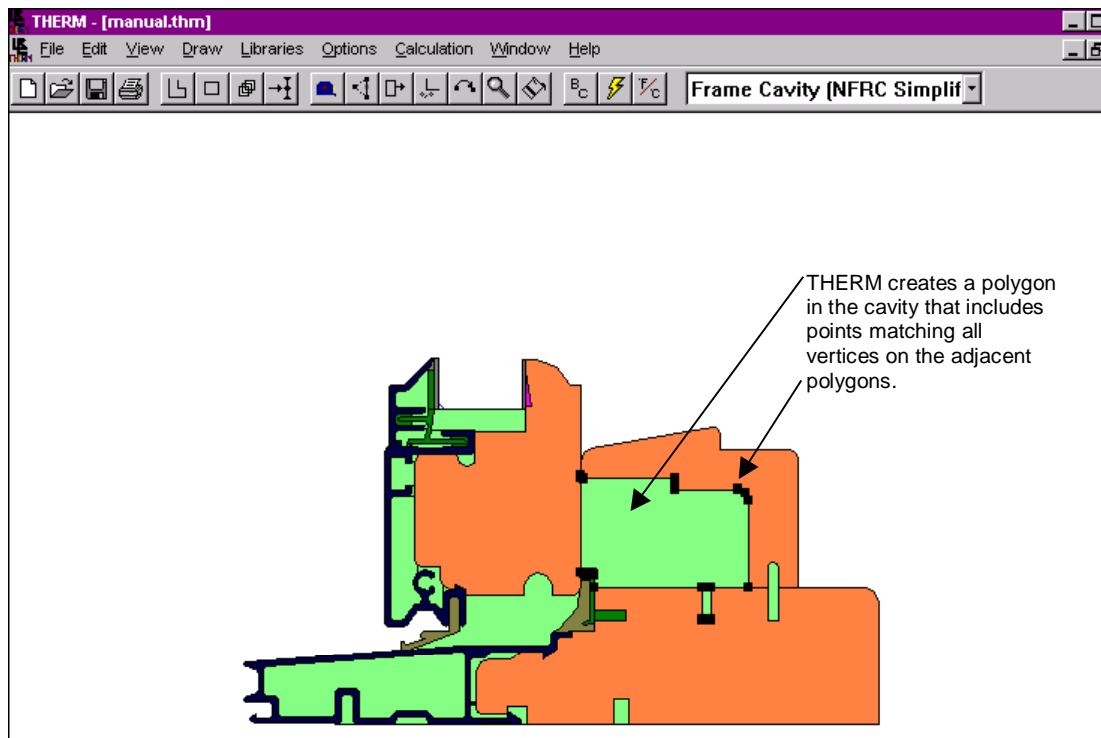

Figure 5-32. The **Fill Void** feature creates a polygon in the cavity containing points matching all vertices on the adjacent polygons.
- Click the left mouse button, and THERM will draw a polygon that fills the area and contains points matching all the vertices on the adjacent polygons, as shown in Figure 5-32.